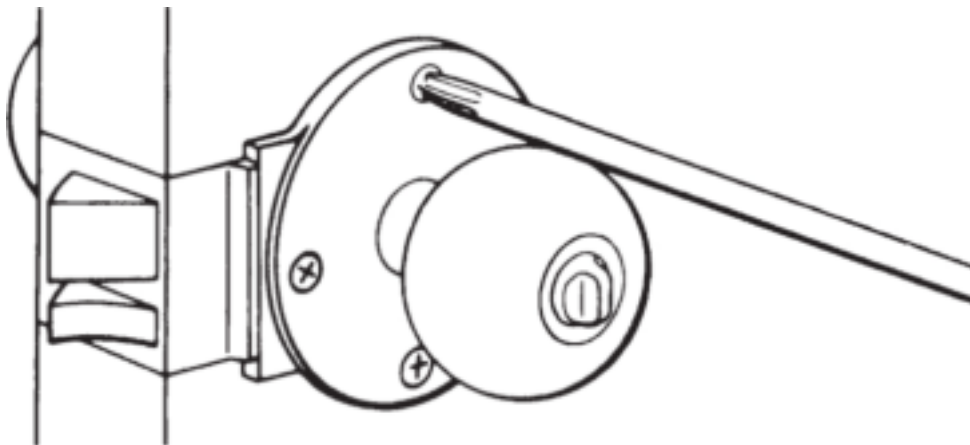

**Figure 13.23** Tightening escutcheon screws.
**Problem 3: Lockset is loose in the door.** Tighten the *escutcheon* screws (Fig. 13.23 ). Be sure to tighten them evenly.